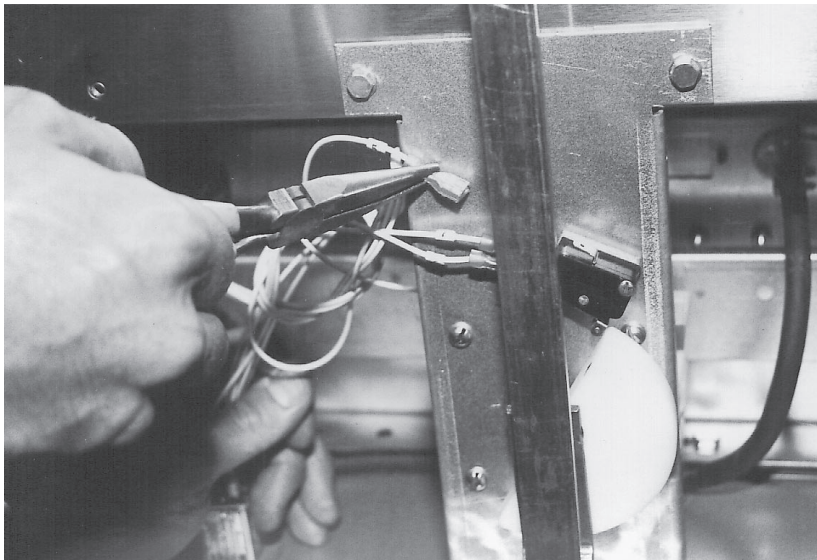

Fig. 66
3. Note and remove wiring from the cam switch. (Fig. 66)